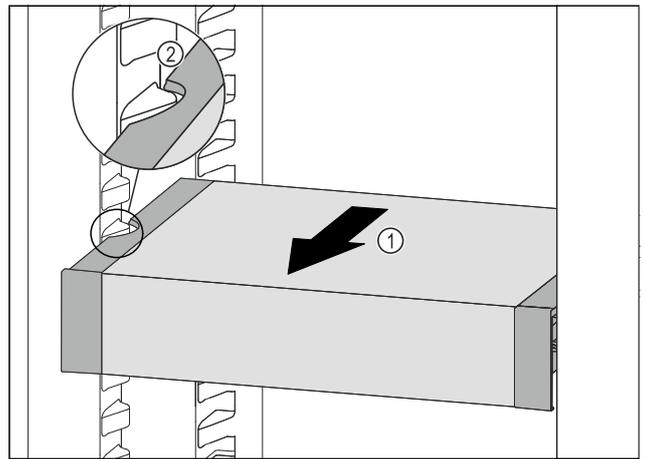

Fig. 85
- ▶ Pull VarioSafe forwards Fig. 85 (1) until the recesses in the side of the VarioSafe are at the level of the support rib in the fridge section. Fig. 85 (2)